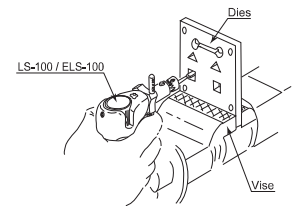

Fig. 9
1. Finishing the complicated shapes and sizes (Fig. 9).